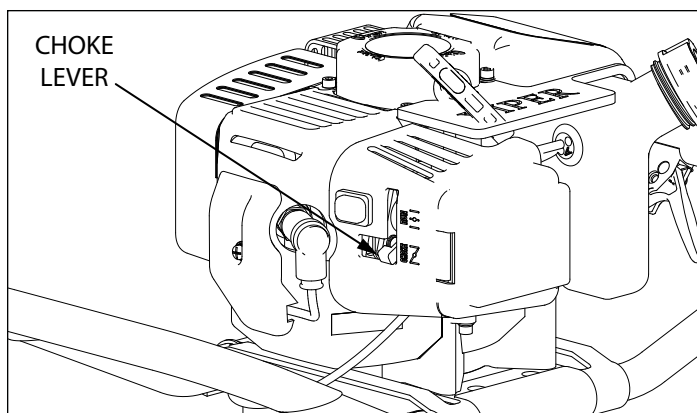

Figure 3
1. Before removing the air filter cover, move the choke lever to the choke position. **SEE FIGURE 3.**